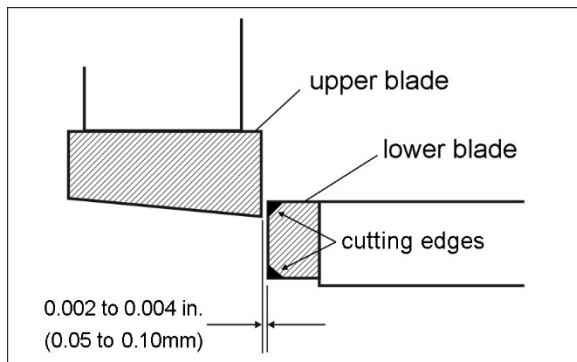

Figure 6-3: gap set for 16ga. material
- As a general rule, blade gap should be approximately 6% of stock thickness. For precise measurement, slide a feeler gauge (not provided) between upper and lower blades. Blade gap should be approx. 0.002 to 0.004-inches (0.05 to 0.10mm). See Figure 6-3.
Maintain sharp blades. If they become dull, re-sharpen or replace. NOTE: The two lower blades are double-edged; if one edge becomes dull, remove blade from table and flip it end-for-end for a fresh edge. See Figure 6-3 for identification of the cutting edges.